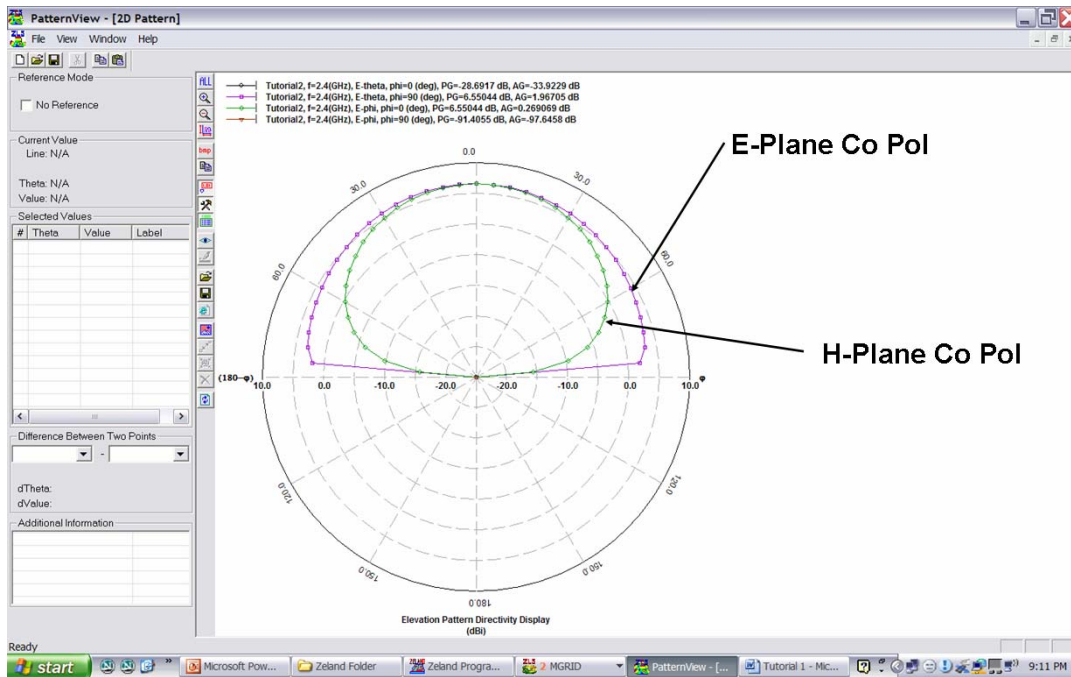

Figure 32.
- 37) The two-dimensional radiation pattern will be shown as seen from Figure 32.